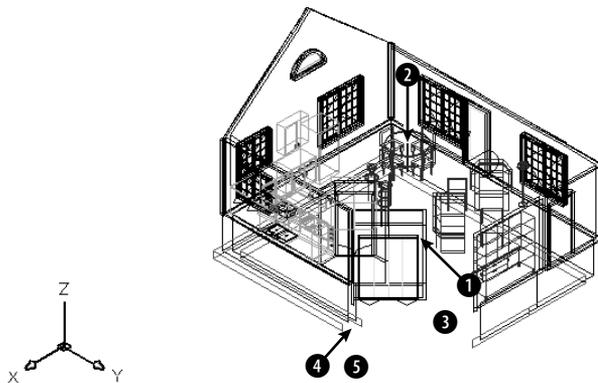

Figure 22-34: The NE isometric view of the house.
- Choose View ⇨ 3D Views ⇨ NE Isometric. The result is as shown in Figure 22-34. This is a quick approximation and helps you plan your camera and target points. To test for endpoints, start the LINE command. Place the cursor at ❶ in Figure 22-34. The Endpoint SnapTip and marker appear. Place the cursor at ❷, the top of the table leg. You should see the Endpoint SnapTip and marker. Press Esc to cancel the LINE command without drawing a line.
- At the main DVIEW prompt, right-click and choose **Points**. At the Specify target point <14'-5 15/16", 21'-9 3/8", 6'-1 1/4">: prompt, pick the endpoint at ❷ in Figure 22-34. At the Specify camera point <14'-6 15/16", 21'-10 3/8", 6'-2 1/4">: prompt, pick the endpoint at ❶.
8. To move the camera point, right-click and choose Camera. At the Specify camera location, or enter angle from XY plane, or [Toggle (angle in)] <11.7252>: prompt, type **8** ↵ to lower the camera point slightly. At the Specify camera location, or enter angle in XY plane from X axis, or [Toggle (angle from)] <11.72523>: prompt, move the cursor close to **3** in Figure 22-34, relative to the screen, not the model, and click.
11. Right-click and choose Pan. At the Specify displacement base point: prompt, pick **4** in Figure 22-34, relative to the screen not the drawing. At the Specify second point: prompt, pick **5** relative to the screen. The display moves down.